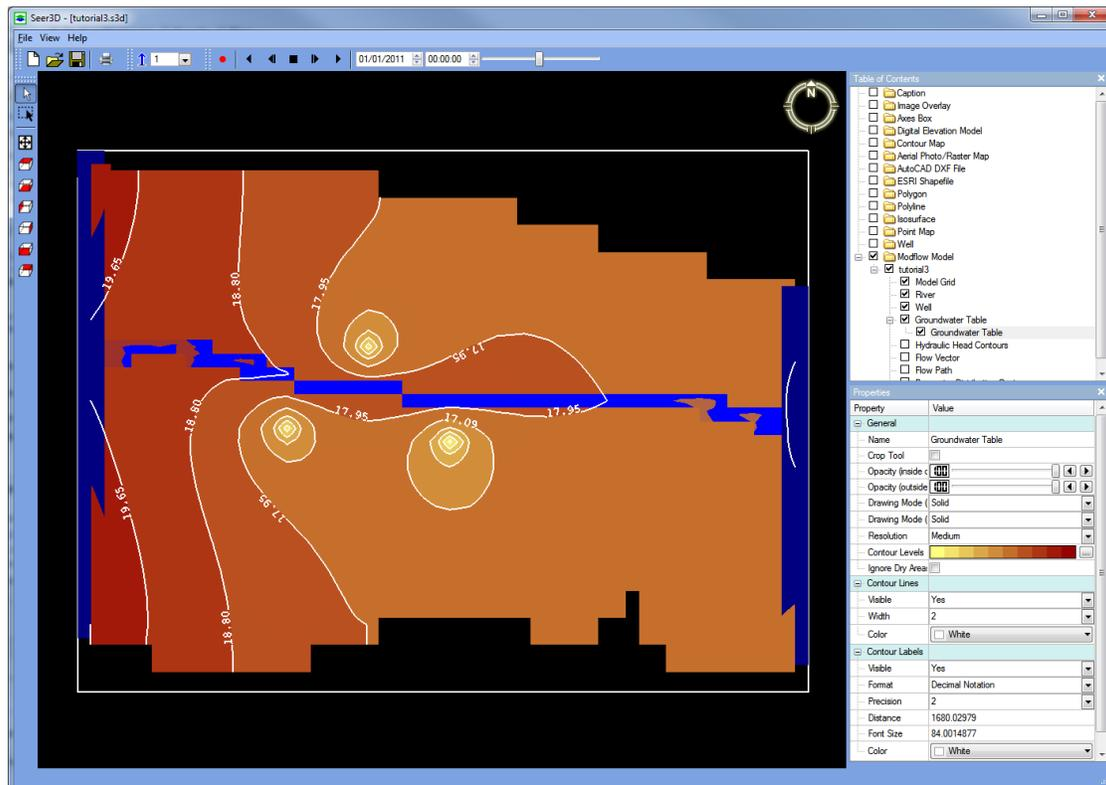

Figure 3.4. The Groundwater Table of a model
2. Select *Create New Object* from the popup menu. The groundwater table will be created and displayed with the default settings. A new item will be added to the Groundwater Table folder (Figure 3.4).